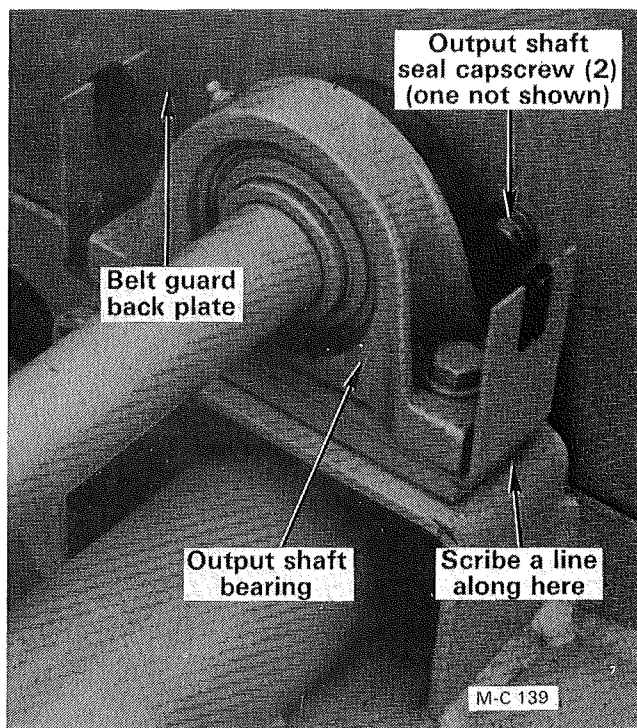

Figure 21
- C. If the pulleys are aligned, scribe a line on the output shaft bearing mounting bracket as shown in Figure 21 to establish the location of the bearing when reassembling.